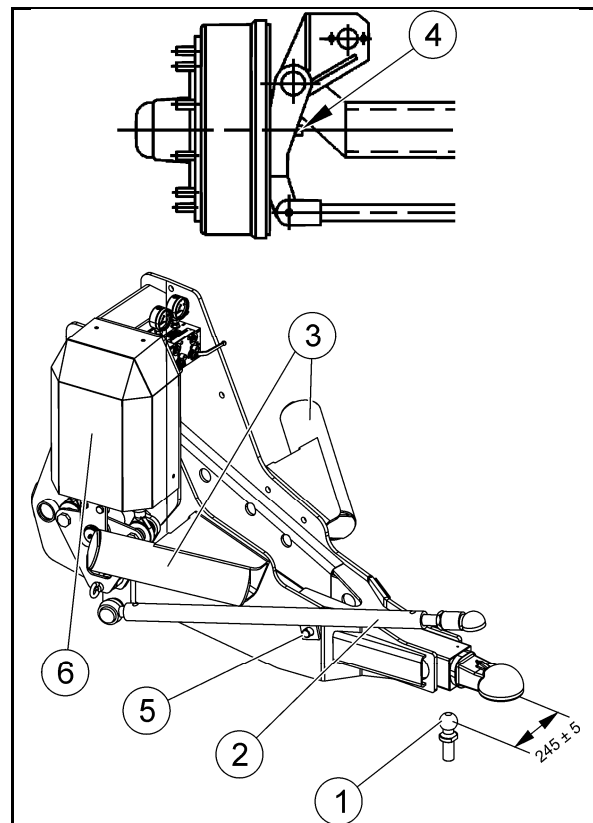

Fig. 44
Fix the steering rod (Fig. 44/2) on the pin (Fig. 44/5):
2. Uncouple the steering rod (Fig. 44/2) from the tractor.
3. Remove the protective cover for the forced steering axle system (Fig. 44/6).
14. Mount the carrier plate (9) with the master cylinders.
15. Fix the protective cover for the forced steering axle system (Fig. 44/6).